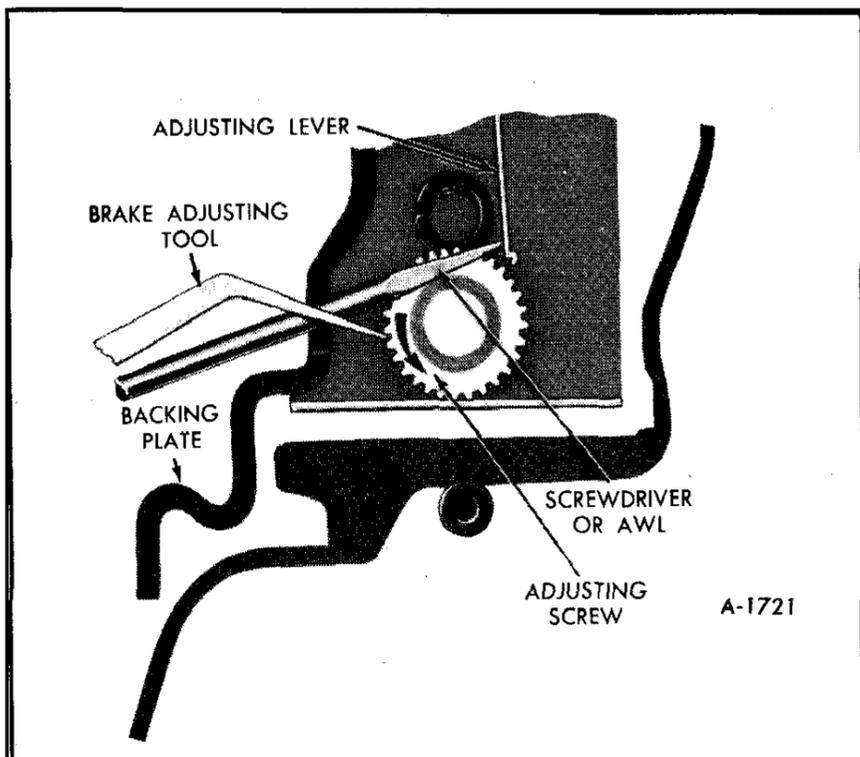

Figure 2—Backing Off Brake Adjustment
Under normal operating conditions it is not necessary to make any manual adjustment to this type brake due to the automatic adjustment feature. However, when it is necessary to remove a brake drum it may also be necessary to "back-off" the adjusting screw in order to pull edge of drum past linings. (see figure 2)
4. Back off brake adjusting screw (figure 2) at each wheel 30 notches. If shoes drag lightly on drum back off adjusting screw one or two additional notches.
drum can be removed. To back off brake shoe adjustment, refer to Figure 2.